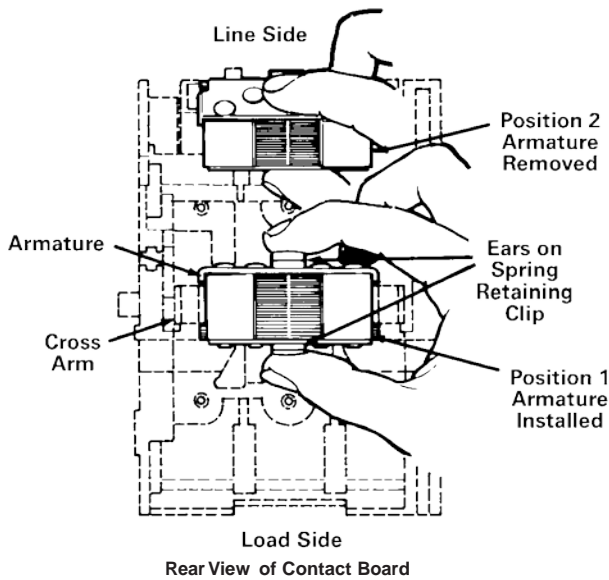

Figure 2
7. The cross arm and armature assembly arrangement is a wide throat T-slot (cross arm) and T-section (armature). Holes in the armature retaining clip and insulation barrier engage a projection on the cross arm. With the contact board positioned as shown in Figure 2, press on the cross arm to bottom it on the contact board. While bottoming cross arm, grasp ears on the armature retaining clip (position 1) and pull the armature and clip away from the contact board to release clip from cross arm and to clear contact board projections. Then immediately slide the armature and clip toward position 2.
2. Place the cross arm in the contact board and position the board as shown in Figure 2. Insert one end of insulation barrier **C** in a cross arm groove. Slightly bow the insulation barrier and insert the other end in the opposite groove.